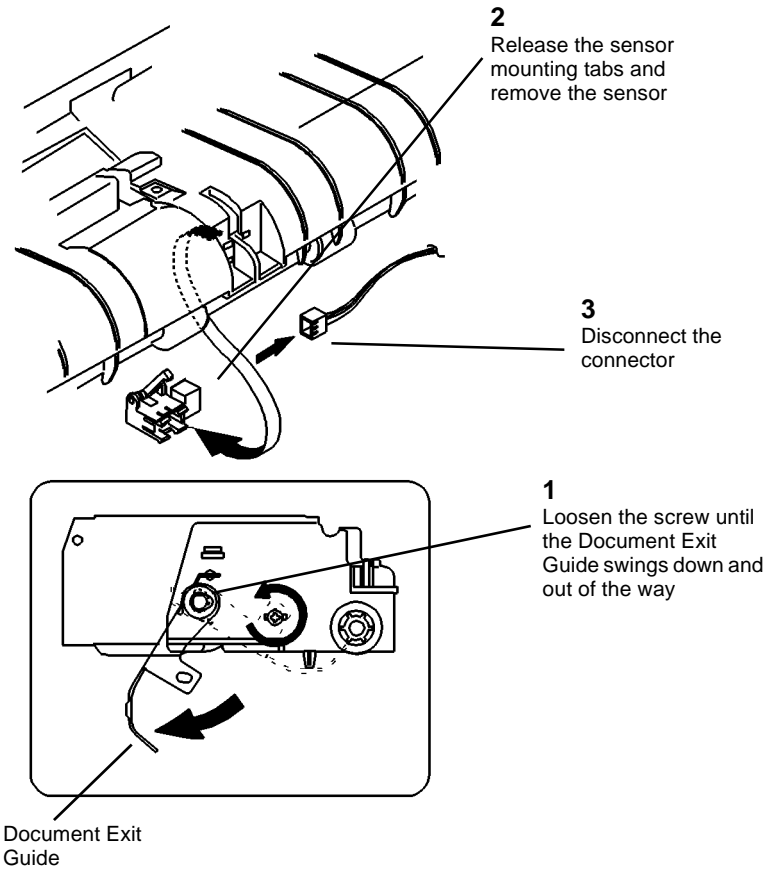

Figure 5 Removing the Document Path Sensor
5. (Figure 5): Remove the Document Path Sensor.